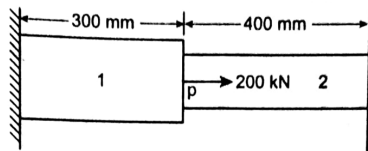

Figure 1
- (b) Consider a bar as shown in Figure 1. An axial load of 200 kN is applied at a point p. Take $A_1 = 2400 \text{ mm}^2$, $E_1 = 70 \times 10^9 \text{ N/m}^2$, $A_2 = 600 \text{ mm}^2$, $E_2 = 200 \times 10^9 \text{ N/m}^2$. Calculate the following: (i) Nodal displacement at point P (ii) Stresses in each material. [7M]